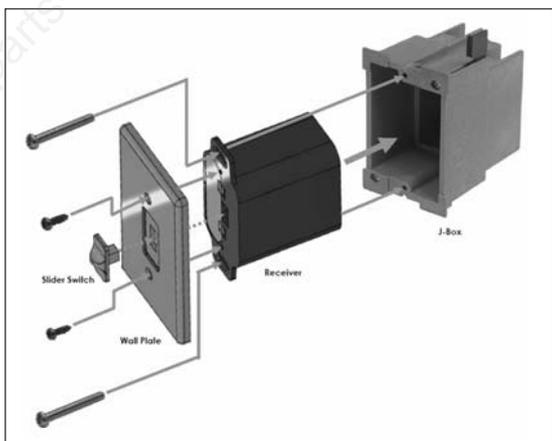

Fig. 4
2. Install the Receiver in the Junction box using the existing J box screws. (Fig. 4)
9. Using the two (2) screws provided secure the cover plate to the Receiver.